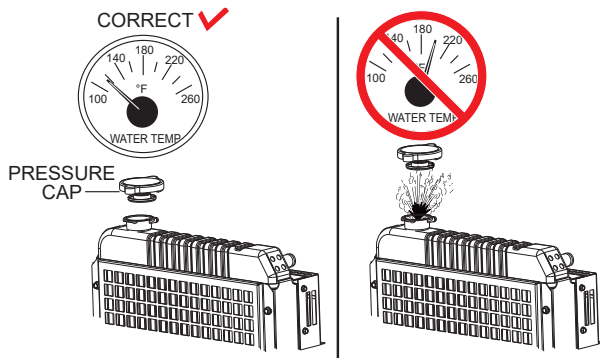

Figure 77. Radiator Pressure Cap Removal
- Remove the **radiator pressure cap** (Figure 77) only when the coolant temperature is below 120°F (50°C).